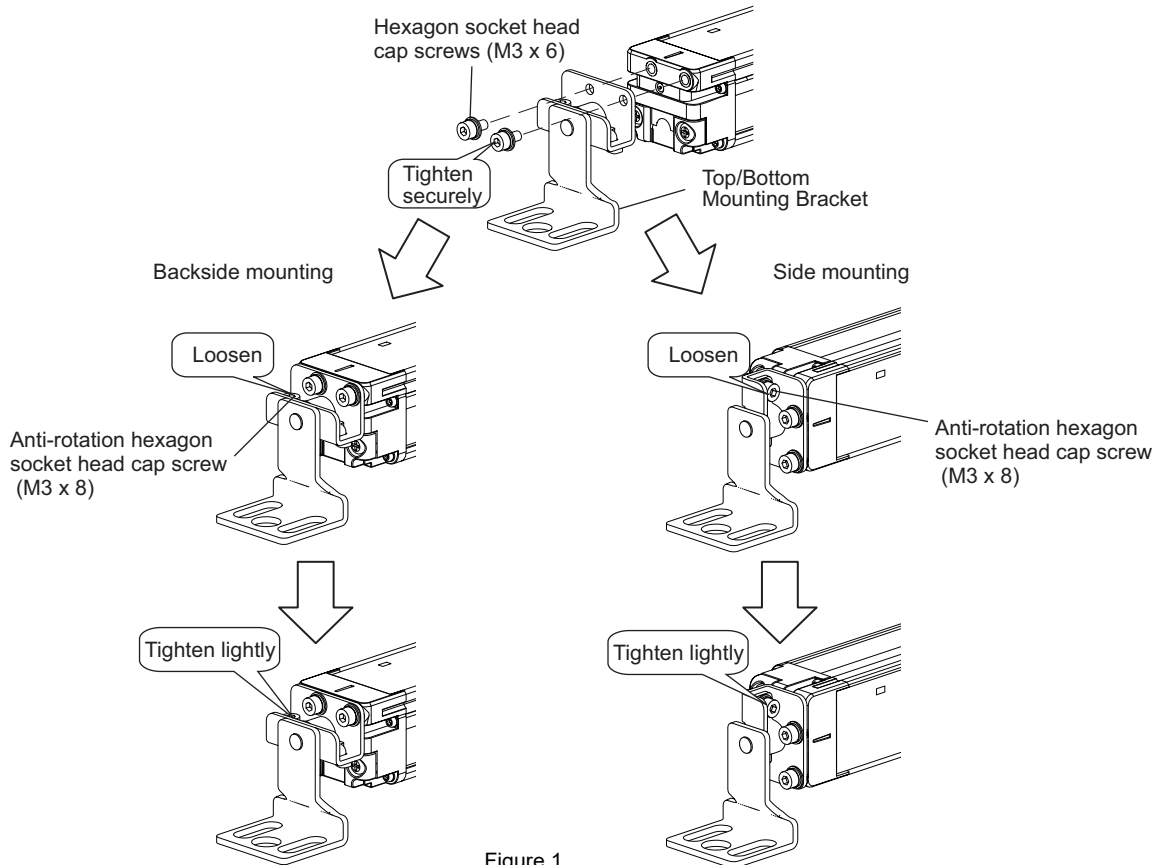

Figure 1
1. Attach Top/Bottom Brackets and tighten them using the included hexagon socket head cap screws (M3 x 6). Tighten the hexagon socket head cap screws (M3 x 6) with the torque at 0.54 N•m (recommended). (Figure 1)